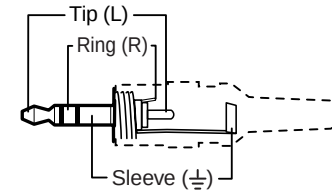

Figure 2-8 — Audio input wiring
- ② **Audio input connector** — Connect PC audio to this 3.5 mm, stereo jack. Wire the male plug as shown in figure 2-8.